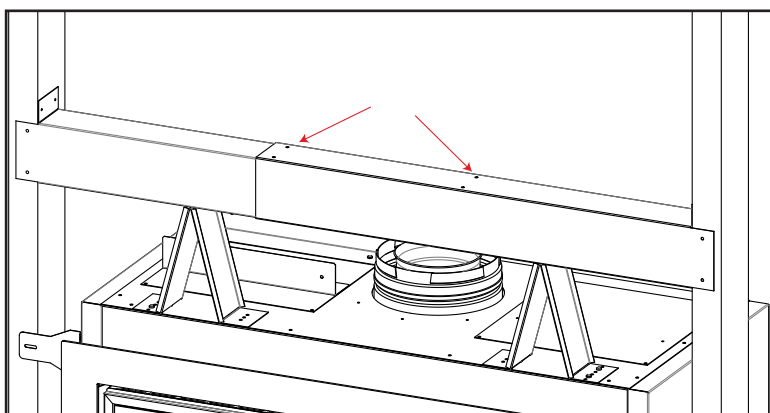

**Figure 14: Steel Stud Assembly**
- Take the two steel stud pieces and slid them into each other. The flanges of each piece should be at the end of the assembly, as well as facing upwards as shown in Figure 14.